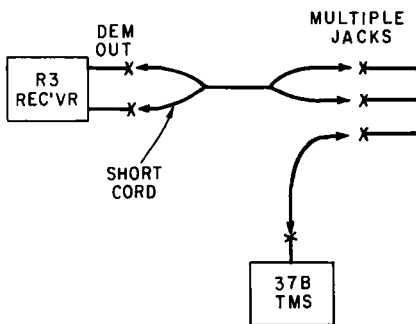

Fig. 7 - Arrangement for Longitudinal Balance Test
- (1) Set up test arrangement as shown in Fig. 7. The multiple jacks are in the jack panel of the receiving console.
- (2) Tune the 37B TMS to 4.139 mc and adjust the LONG CARR BAL control on the demodulator panel for a minimum reading.